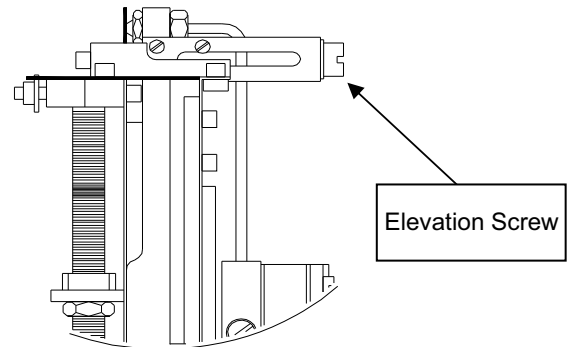

Fig.4.4 ELEVATION DEVICE
For pressure vessels, connect the transmitter as in fig. 4.3. It must be provided with an elevation device (fig. 4.4) since the transmitter output signal would be different from 3 psi at zero level.
- 2) Fill it with liquid (W)
- 3) Use the elevation screw (Fig.4.4) to obtain a 3 psi transmitter output